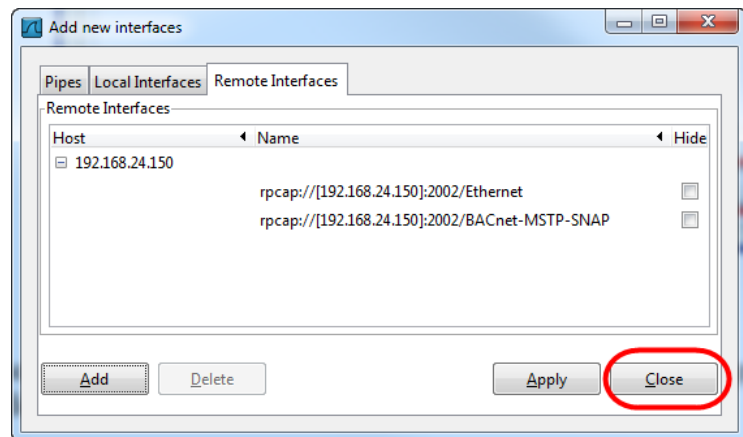

Figure 379: Added new interface to Wireshark.
7. If the connection to the device was established successfully, the **Remote Interfaces** list will be updated with information about all capture ports available on the device as shown in Figure 379.